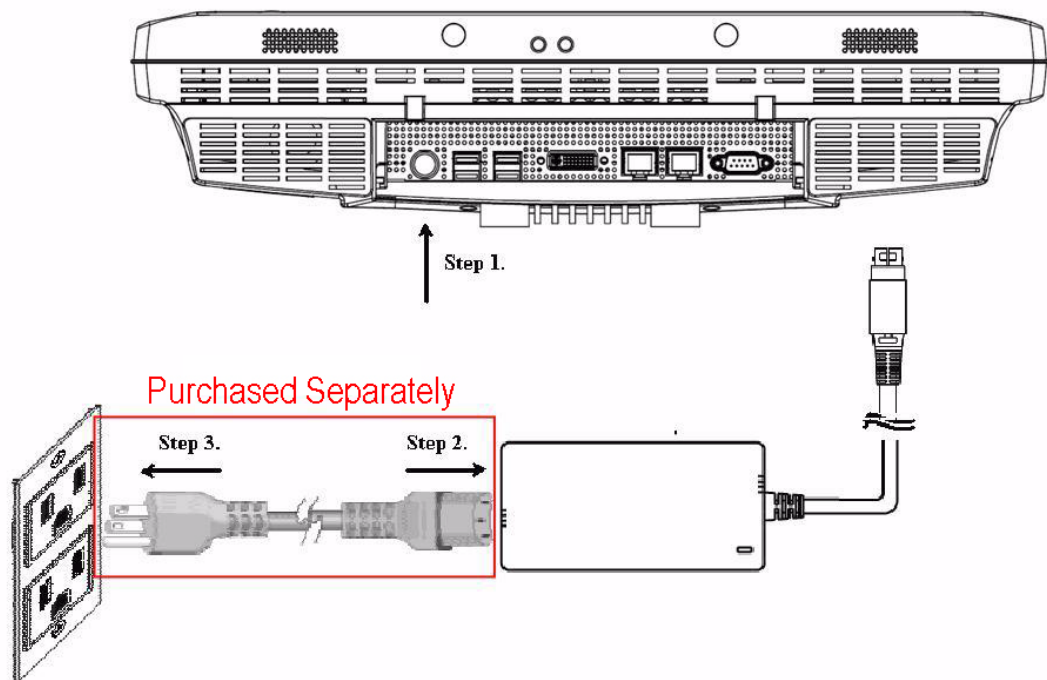

Figure 2.3 Connecting the power cord
1. Connect the male end of the power adapter to the DC jack of the panel PC. (See Figure 2.3.)